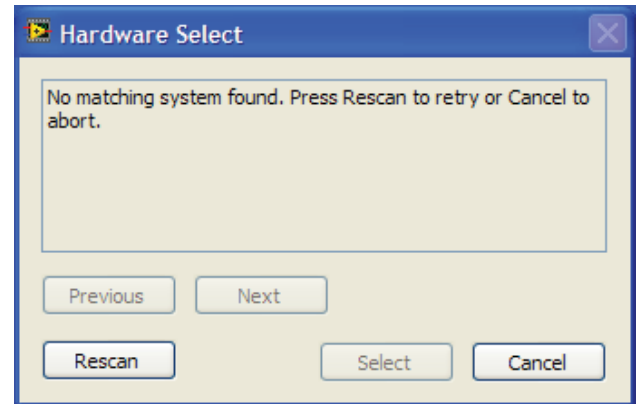

Figure 8. Connectivity Error
3. If the **EVAL-SDP-CB1Z** is not connected to the USB port when the software is launched, a connectivity error displays (see Figure 8). Plug the USB cable into the **EVAL-SDP-CB1Z**, then plug the **EVAL-SDP-CB1Z** into the **EVAL-AD7293SDZ**, wait a few seconds, click **Rescan**, and follow the instructions.